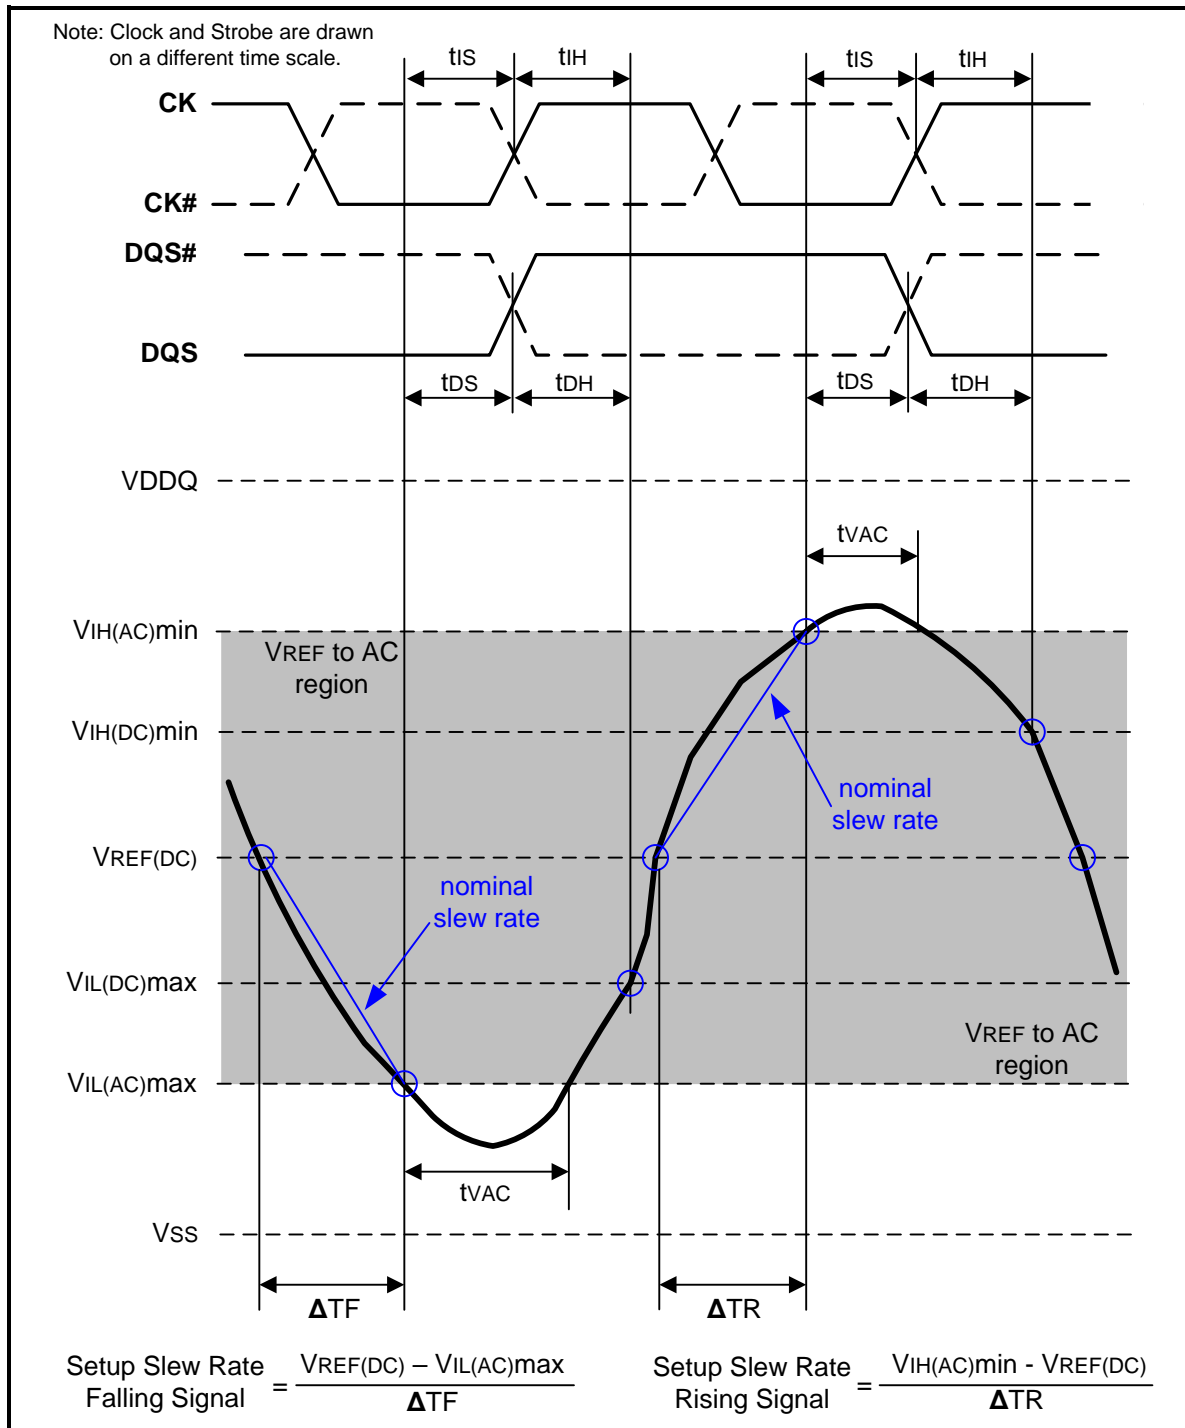
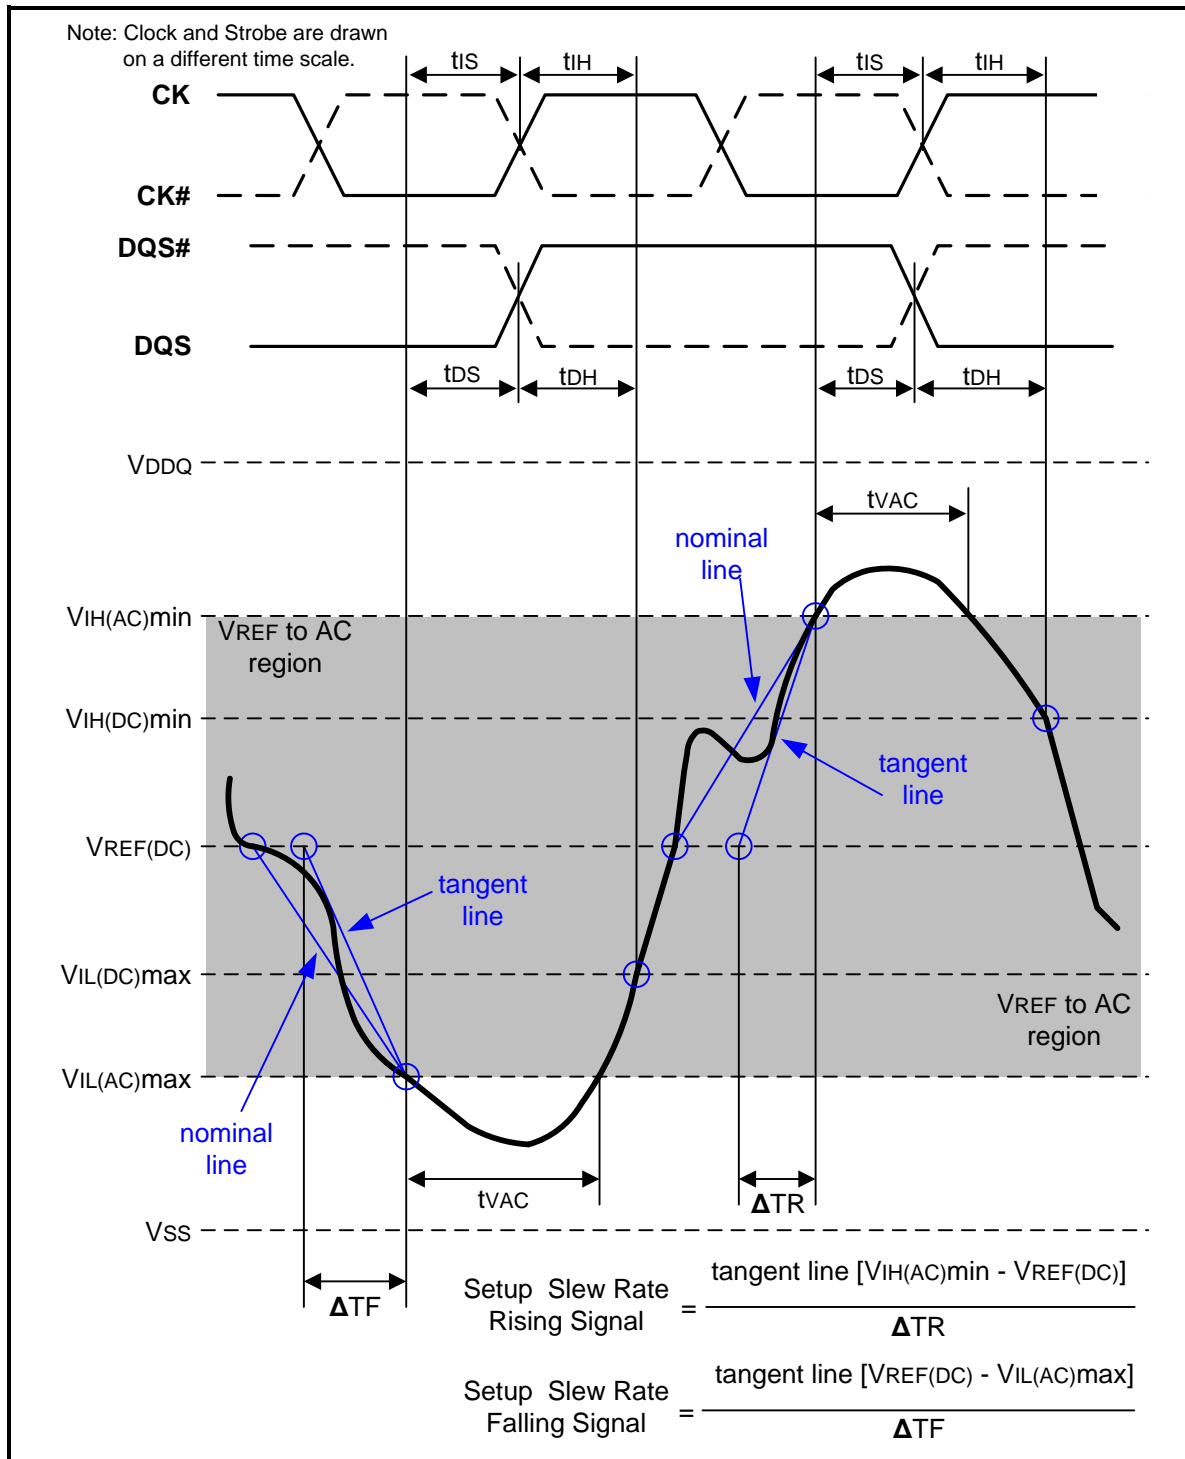

Figure 107 – Illustration of nominal slew rate and t_{vac} for setup time t_{DS} (for DQ with respect to strobe) and t_{IS} (for ADD/CMD with respect to clock)
Figure 109 – Illustration of tangent line for setup time tDS (for DQ with respect to strobe) and tIS (for ADD/CMD with respect to clock)
Setup (t_{IS}) nominal slew rate for a rising signal is defined as the slew rate between the last crossing of $V_{REF}(\text{DC})$ and the first crossing of $V_{IH}(\text{AC})_{\text{min}}$. Setup (t_{IS}) nominal slew rate for a falling signal is defined as the slew rate between the last crossing of $V_{REF}(\text{DC})$ and the first crossing of $V_{IL}(\text{AC})_{\text{max}}$. If the actual signal is always earlier than the nominal slew rate line between shaded 'VREF(DC) to AC region', use nominal slew rate for derating value (see Figure 107). If the actual signal is later than the nominal slew rate line anywhere between shaded 'VREF(DC) to AC region', the slew rate of a tangent line to the actual signal from the AC level to $V_{REF}(\text{DC})$ level is used for derating value (see Figure 109).
Setup (tDS) nominal slew rate for a rising signal is defined as the slew rate between the last crossing of VREF(DC) and the first crossing of VIH(AC)min. Setup (tDS) nominal slew rate for a falling signal is defined as the slew rate between the last crossing of VREF(DC) and the first crossing of VIL(AC)max (see Figure 107). If the actual signal is always earlier than the nominal slew rate line between shaded 'VREF(DC) to AC region', use nominal slew rate for derating value. If the actual signal is later than the nominal slew rate line anywhere between shaded 'VREF(DC) to AC region', the slew rate of a tangent line to the actual signal from the AC level to VREF(DC) level is used for derating value (see Figure 109).